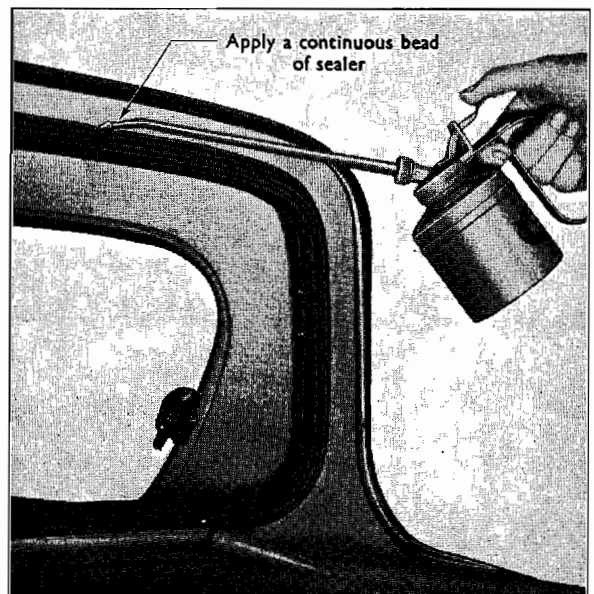

Fig. 10
**1.** Seal around the rear window weather strip as described for sealing around the windscreen weather strip (see Fig. 10). Carefully ease the chrome mouldings from around the rear window and examine the plastic sealer tape covering the flange of rear window aperture and rear quarter panel. Check that the luggage compartment lid weather strips are securely cemented to the lid, and are seating securely on the drain channel edges when the lid is closed. If necessary, re-cement the weather strips with sealing adhesive, ensuring that the weather strip is securely